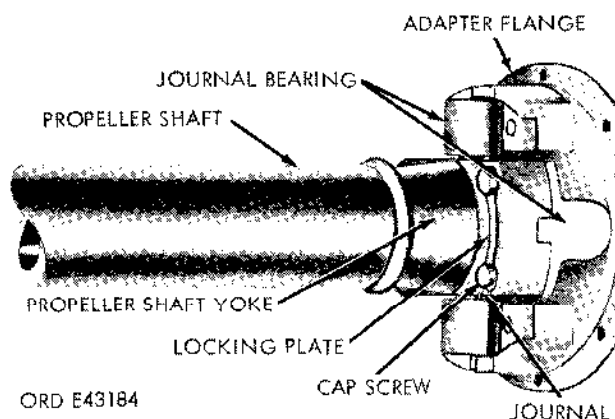

Figure 2-173. Flange-mounted universal joint.
(1) Remove the eight nuts and bolts securing the propeller shaft adapter flange to the driven shaft companion flange (fig. 2-173).
(2) Repeat step (1) above at the other end of the propeller shaft assembly, and remove the shaft assembly from the vehicle.
(1) Remove the four bolts and lockwashers securing the two locking plates (fig. 2-173). Remove the plates and the adapter flange.
(2) Repeat step (1) above to remove the adapter flange at the other end of the propeller
(1) Refer to paragraph 2-179 *d*, and follow similar procedures to complete the assembly of the universal joints and the propeller shaft.
(2) Secure the adapter flange to the propeller shaft and universal joint assembly with two locking plates and four screws and lockwashers. Bend the locking plates over the screws (fig. 2-173).
(3) Repeat step (2) above at the other end of the propeller shaft and universal joint assembly.
(1) Secure the propeller shaft adapter flange (fig. 2-173) to the companion flange on the driven shaft.
(2) Repeat step (1) above at the other end of the propeller shaft assembly. Tighten the nuts at both flange ends of the shaft.
(3) Lubricate the shaft and joint assembly in accordance with LO 9-2320-211-12.